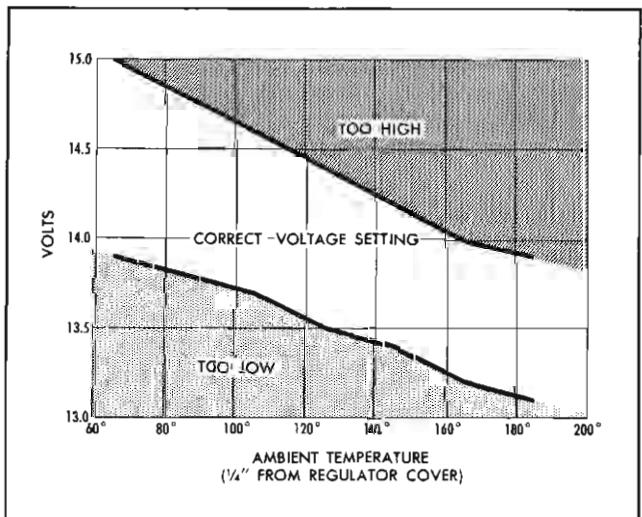

Fig. 11-29 Temperature Correction Chart
The voltage at which the regulator operates varies with changes in regulator ambient temperatures (Fig. 11-29). The ambient temperature is the temperature of the air measured $\frac{1}{4}$ of an inch from the regulator cover.
d. Bring engine speed up to 2500 rpm (approximately 6000 alternator rpm) and note the voltage setting (refer to Fig. 11-29). The regulator should be operating on the upper or shorting contacts. If it will not operate on the upper contacts, the battery is in an extreme state of discharge, and must be at least partially re-charged before proceeding. The methods of identifying upper or lower contact operation is covered in Step 9.
9. After making the voltage setting while operating on the upper set of contacts, check the voltage setting while operating on the lower set of contacts as follows: Slowly increase the resistance of the variable resistor with the engine operating at 2500 rpm (approximately 6000 alternator rpm) until the regulator begins to operate on the lower set of contacts. Then note the voltage reading, and refer to Fig. 11-29. NOTE: If turning the variable resistor does not cause the regulator to operate on the lower set of contacts, return variable resistor to the "no resistance" position, turn
by water consumption exceeding one ounce per cell each 1000 miles). In order to obtain the desired setting, tailor the voltage regulator setting. To properly tailor voltage, refer to Fig. 11-29 and use a magnetic thermometer to measure regulator temperature. If magnetic thermometer is not available, a regular thermometer should be held with bulb $\frac{1}{4}$ " from regulator cover.